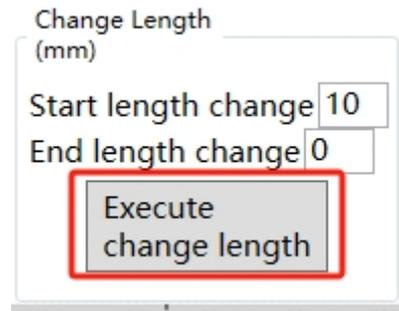
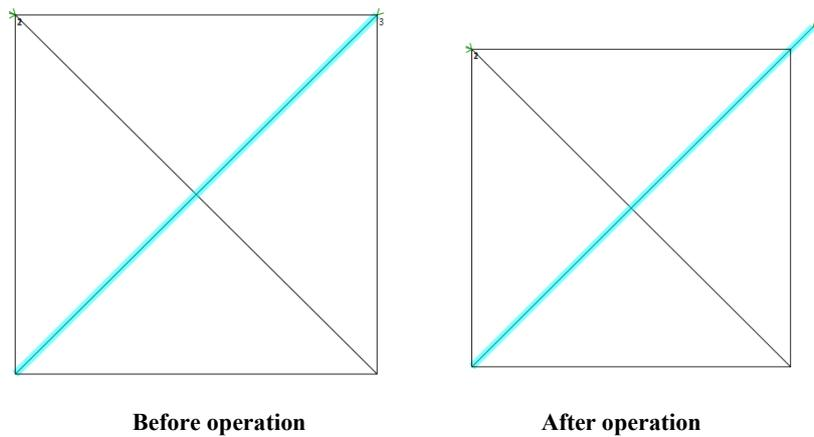

Fig. 5.3.5c Click Execute Change Length
Fig. 5.3.5d Schematic Diagram of Variable Length Operation
③ Click Execute to make it longer. As shown in Fig. 5.3.5c. The graphical changes are shown in Fig. 5.3.5d.